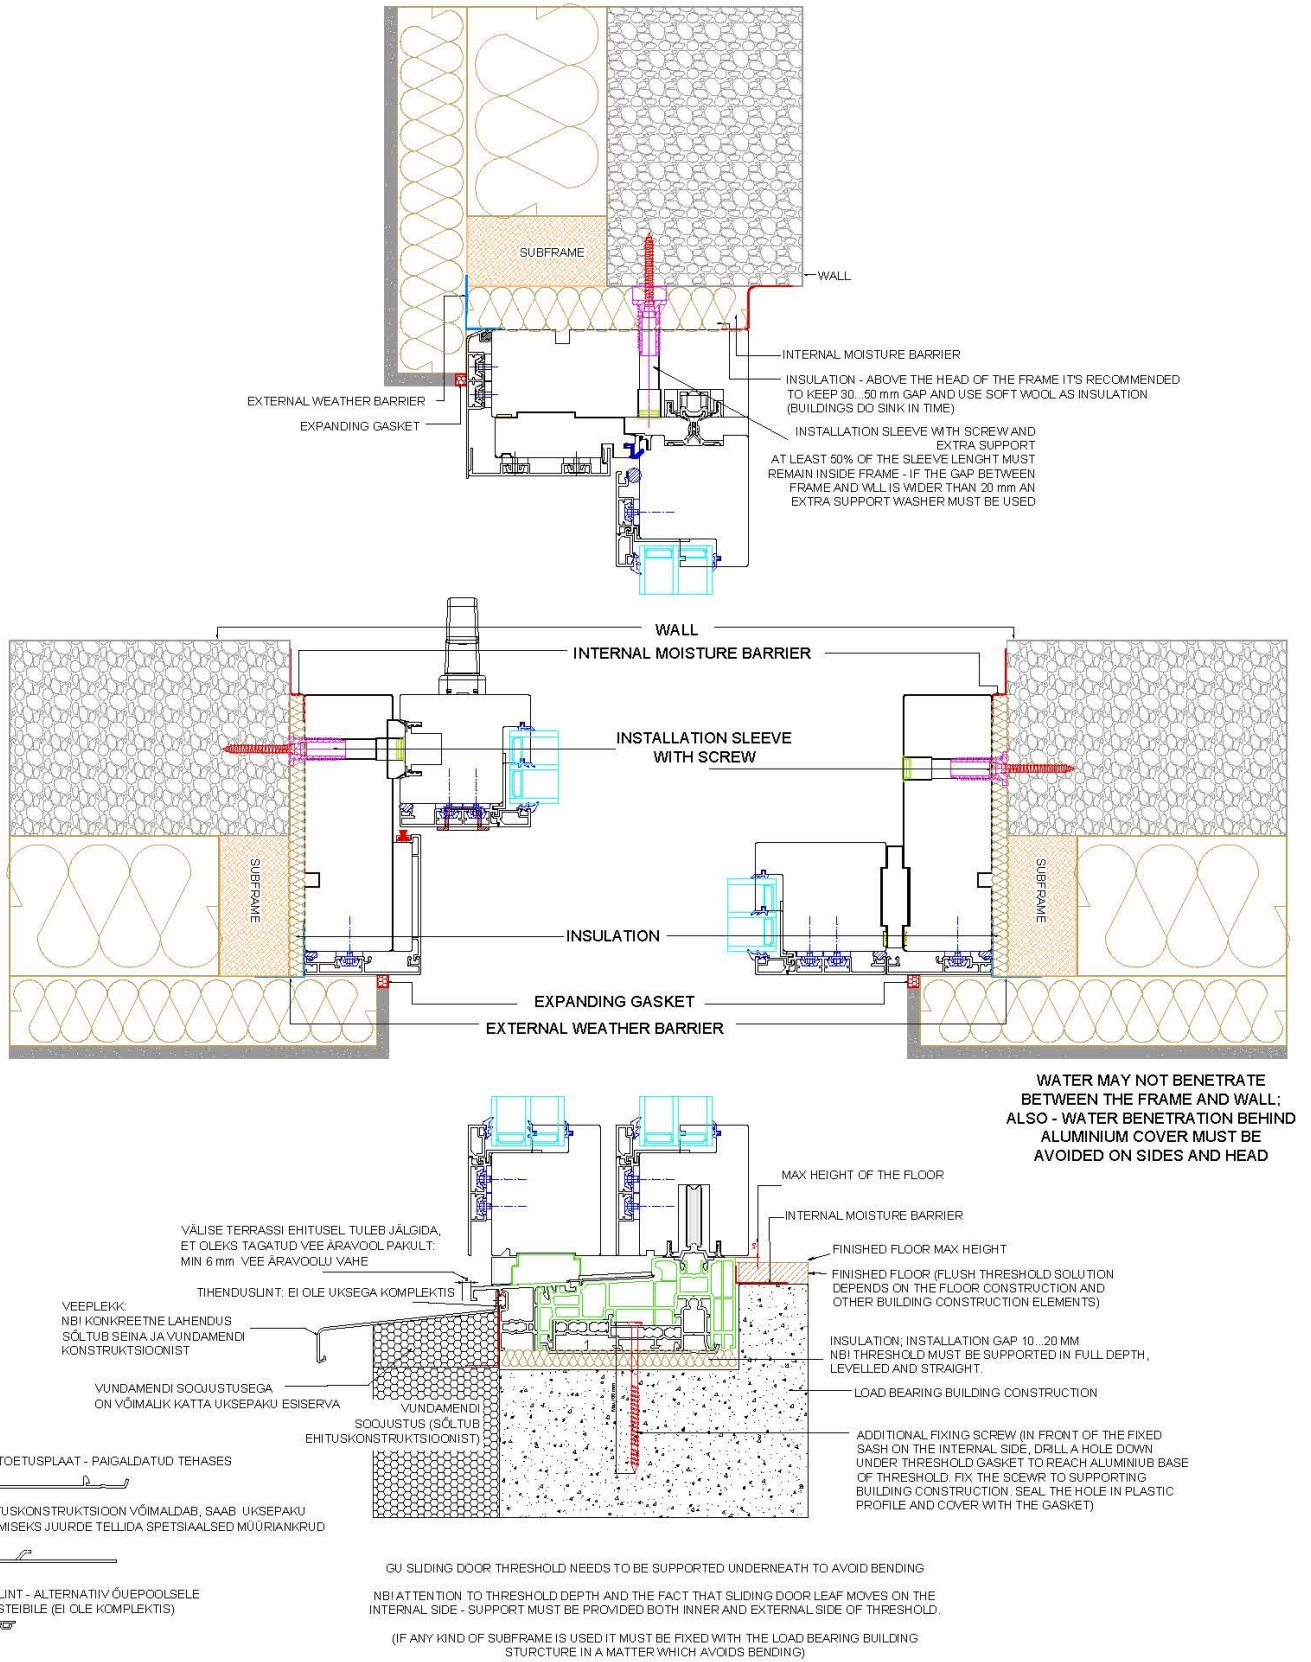

Figure 9. The installation schemes of GU sliding door
5. SW14 Fireguard windows (both openable and fixed lights) must be fixed with wall using both stainless steel sleeves and installation brackets (see figure 9 and 10 page 7). DK22 Fireguard window must be installed according the remarks of the figure 9 and the general guide lines of inward opening window installation (see figure 6 page 5)
7. The insulated installation gap must be finished from both sides (e.g. with gypsum board, plaster, slivers, etc.); also see figure 9.